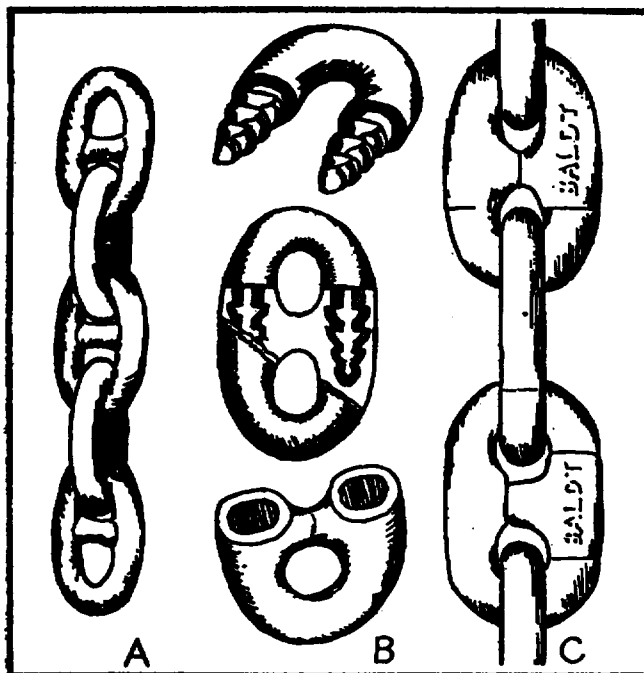

Fig. 2-23 A) STUD-LINK CHAIN. B) DI-LOK LINK BEFORE AND AFTER JOINING. C) DI-LOK CHAIN JOINED WITH DETACHABLE LINK.
- 1 General. Aids to Navigation vessels use open link and stud link chain. Alloy, sling and tie-down chains are also open link. Open link chain is any chain that does not have an obstruction through the link (See **Figure 2-23**). The major differences between buoy chain and alloy chain are the steel and the shape of the links. Buoy chain is made from carbon steel grade 1010 or better (basically a low cost bendable steel). Alloy chain is made from alloy steels, usually 4600 or 8600 grades. These have much higher breaking strengths than carbon steels. The carbon steels are used for buoy chain because the strength is adequate for mooring buoys and because of its low cost. Buoy chain shall not be used in slings or to secure deck loads.
- a A stud link chain can be of two different styles; stud link or die lock (See **Figure 2-23**). Stud link chain, because it has a higher breaking strength than buoy chain, is also used for mooring Large Navigational Buoys. Open link chain can deform or stretch when under heavy strain, as in breaking out an anchor or sinker. The open link chain will deform into a shape known as a peanut (See **Figure 2-24**). If a peanut-shaped link were hauled into a wildcat, it would not fit. The stud in stud link type chain prevents this peanut shape by keeping the barrels a given distance apart. Stud link chains fail without deforming a significant amount. Stud link chains are made of alloy steels usually grade 8600 or better. Use stud link chain for anchoring or mooring chains, where they will be lifted using a wildcat.
- d Integral stud link chain is made by forging one end of the bar stock over nearly 90 degrees, then bending the rest of the stock around this stud to form a link (See **Figure 2-23**). In this way the stud is part of the link itself and will not fall out.
- 4. Die Lock Chain. Die lock chain is made entirely by forging; there is no welding involved. It was developed by the U. S. Navy to be a chain in which the stud could never fall out. The chain is made from two pieces of bar (See **Figure 2-23**). The larger of the pieces is forged into a U shape. It is forged again to create tapered holes in each end and the excess material is shaped into a stud. The shorter bar is also forged into a U shape and then forged so its ends are tapered to mate with the first piece. The two U shapes are brought together and forged making the female section grasp the male.